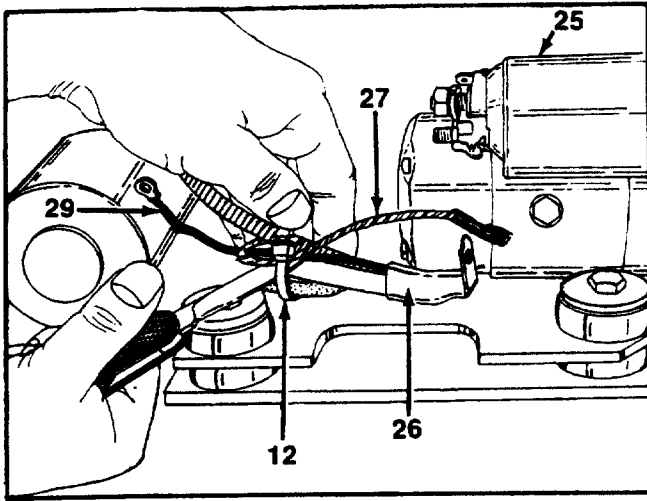

FIGURE 16.
19. Cut the cable tie at wire harness, solenoid starter terminal and oil sending unit wire. See figure 16.